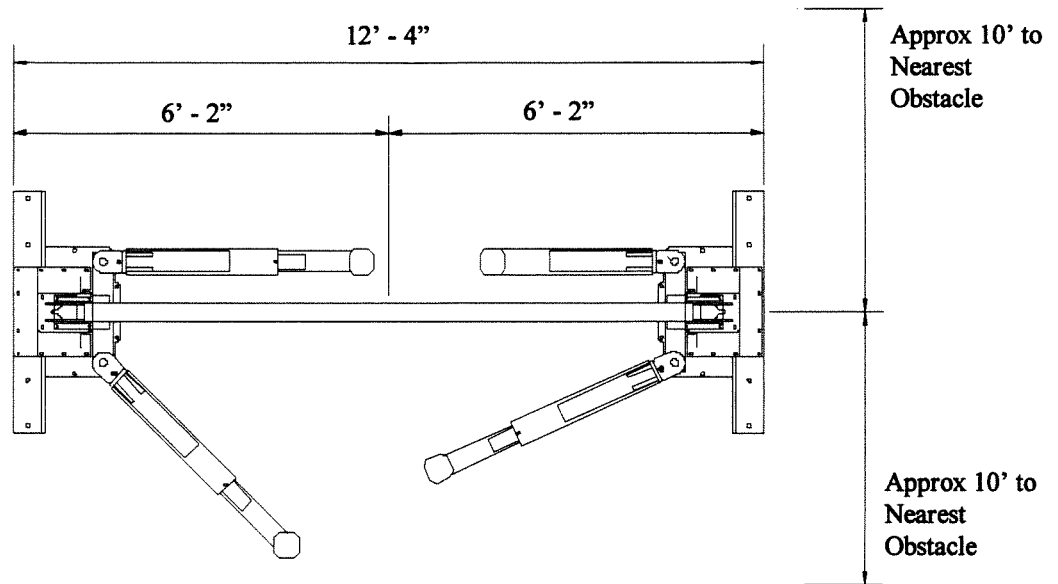

Figure 2
4. Refer to Figure 2 on the following page to determine where to place the legs in the service bay. The mainside leg holds the power unit. It can be placed on either the right or left side. Lay out and mark the floor for leg placement.